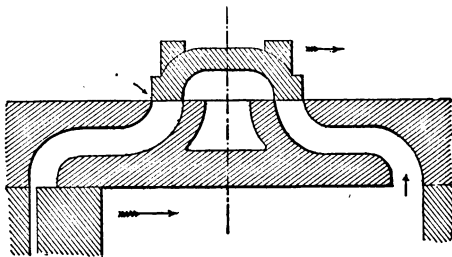

FIG. 12.—LAPLESS VALVE WITHOUT LEAD.
A. A lapless valve, if it has no lead, is exactly at its central or neutral position when the piston is at either end of its stroke. (See Fig. 12.)
A. A lapless valve (without lead) starting from its central position (see Fig. 12) moves in the same direction as the piston until the piston is at mid-stroke, and then moves in the opposite direction while the piston finishes its stroke. In other words, the valve makes half a single stroke forwards and half a single stroke backwards, while the piston makes a whole single stroke forwards; and *vice versa*.
A. With a lapless valve, when the piston is at back stroke, the back port is just about to open into the chest as a steam passage, and the front port is acting as an exhaust passage, communicating through the arch of the valve with the central exhaust port, and through it with the open air (or with the condenser). (See Fig. 12.)